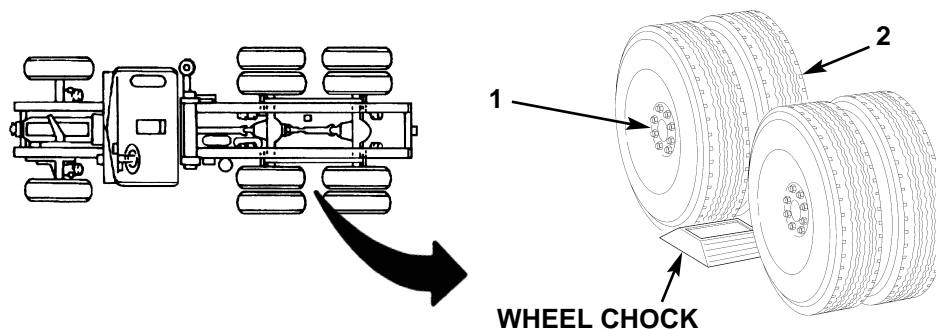
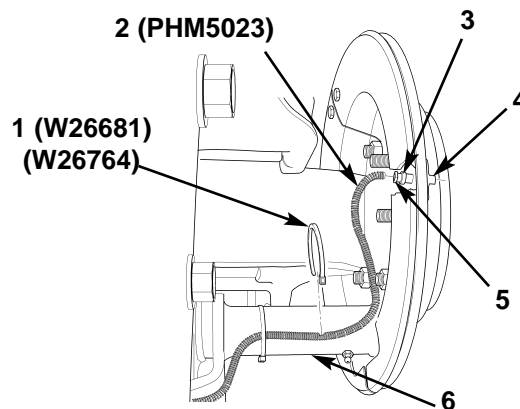

Figure 3. Chocking Wheels on Forward-Rear Axle.
Figure 13. Installing Split Loom on Wheel Sensor Power Cable.
5. Place wheel chock in front of both tires (figure 3, item 2) on forward-rear axle (figure 3, item 1) at both sides of tractor.
13. Measure and cut new bulk split loom (figure 13, item 2) to length of wheel sensor power cable (figure 13, item 3), and install split loom (figure 13, item 2) on power cable (figure 3, item 3).
14. Slide end of split loom (figure 13, item 2) into enlarged hole (figure 13, item 5), and secure split loom (figure 13, item 2) to camshaft bracket (figure 13, item 6) with two new tie straps (figure 13, item 1).
15. Repeat steps 9 through 14 to install new wheel sensor assembly (figure 13, item 4) at opposite end of rear-rear axle.